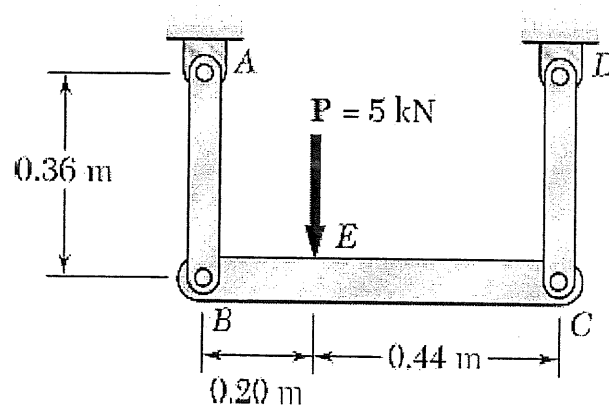

Figure 1
- b) Each of the links  $AB$  and  $CD$  is made of aluminum ( $E = 75$  GPa) and has a cross-sectional area of  $258$  mm2 shown in Figure 1. Knowing that they support the rigid member  $BC$ ,